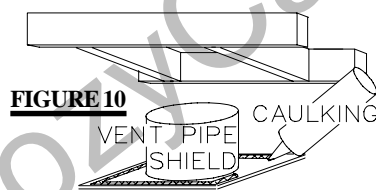
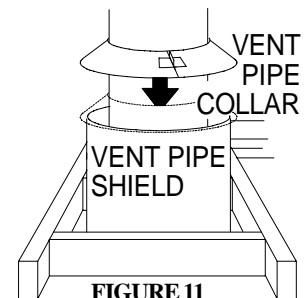
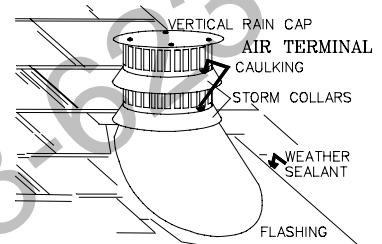

FIGURE 10
FIGURE 11
FIGURE 16
A vent pipe shield will prevent any materials such as insulation, from filling up the 1" air space around the pipe. **FIGURE 11.** Nail headers between the joist for extra support.
2. Apply a bead of caulking (not supplied) to the framework or to the Wolf Steel vent pipe shield plate or equivalent (in the case of a finished ceiling), and secure over the opening in the ceiling. **FIGURE 10.** A firestop must be placed on the bottom of each framed opening in a roof or ceiling that the venting system passes through. **FIGURE 11.** Apply a bead of caulking all around and place a firestop spacer over the vent shield to restrict cold air from being drawn into the room or around the fireplace. Ensure that both spacer and shield maintain the required clearance to combustibles. Once the vent pipe / liner is installed in its final position, apply sealant between the pipe / liner and the firestop spacer.
6. Apply a heavy bead of weatherproof caulking 2 inches above the flashing. Slide the storm collar around the air terminal and down to the caulking. Tighten to ensure that a weather-tight seal between the air terminal and the collar is achieved. Attach the other storm collar centered between the air intake and the air exhaust slots onto the air terminal. Tighten securely. **FIGURE 16.** Attach the vertical rain cap.
5. Thread the air terminal pipe assembly down through the roof support and attach, ensuring that a minimum 16" of air terminal will penetrate the roof when fastened. **FIGURE 16.** If the attic space is tight, we recommend threading the Wolf Steel vent pipe collar or equivalent loosely onto the air terminal assembly as it is passed through the attic. **FIGURE 11.** The air terminal must be located vertically and plumb.